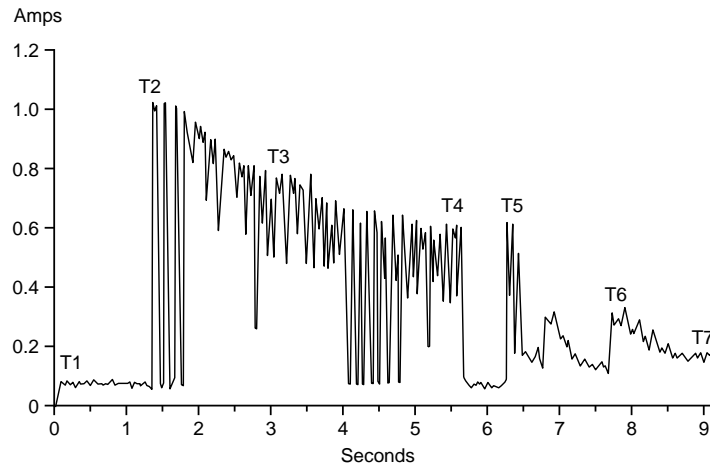

Figure 1. Typical startup current profile
- **Spinup.** Spinup is defined as the period during which the spindle is coming up to operating speed. The power consumed in this mode is equivalent to the average power during the first 10 seconds after the drive begins to spin up. Refer to the startup current chart in Figure 1 on page 8 for a typical representation of power consumption during spinup.